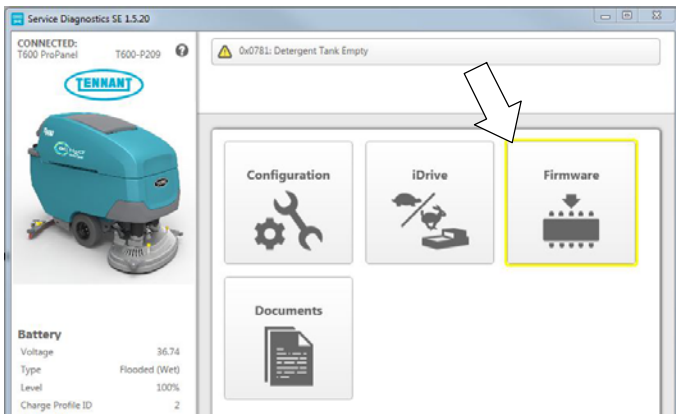

Fig. 6
- If firmware updates are required, the “Firmware” button on the home screen will be highlighted in yellow as shown (Figure 6). Press the Firmware button to update the machine’s firmware.